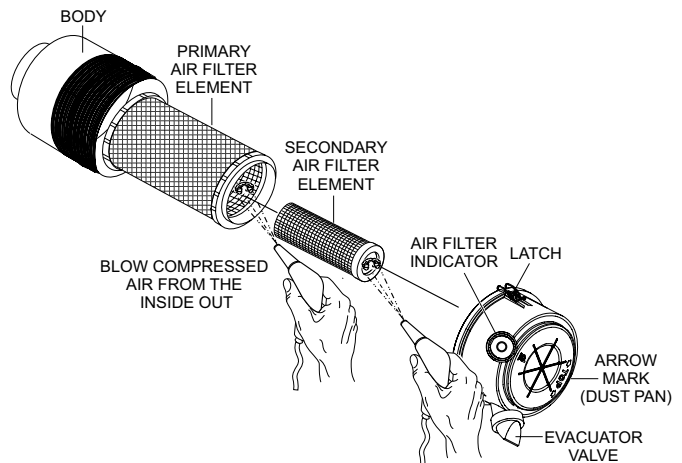

Figure 54. Air Cleaner
Every 250 hours: Remove air cleaner element (Figure 54) and clean the heavy duty paper element with light spray of compressed air. Replace the air cleaner as needed.
1. Release the latches (Figure 54) that secures the cover to the air cleaner body.
6. To clean the primary element (paper air filter) as referenced in (Figure 54), tap the filter element several times on a hard surface to remove dirt, or blow compressed air (not to exceed 30 psi (207 kPa, 2.1 kgf/cm²) through the filter element from the inside out.